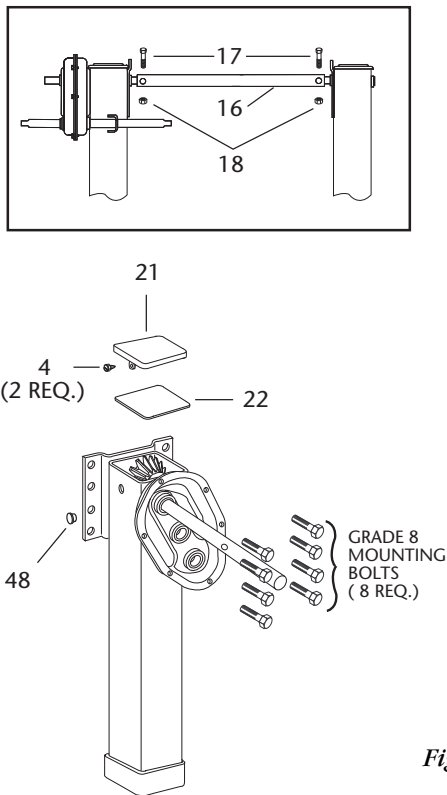

Figure 5
3. Remove the eight (8) landing gear mounting bolts from the mounting plate and remove the landing gear leg from the trailer.
5. Remove the plastic plug (*Item 48*) from the bevel pinion gear access hole (see *Figure 5*).